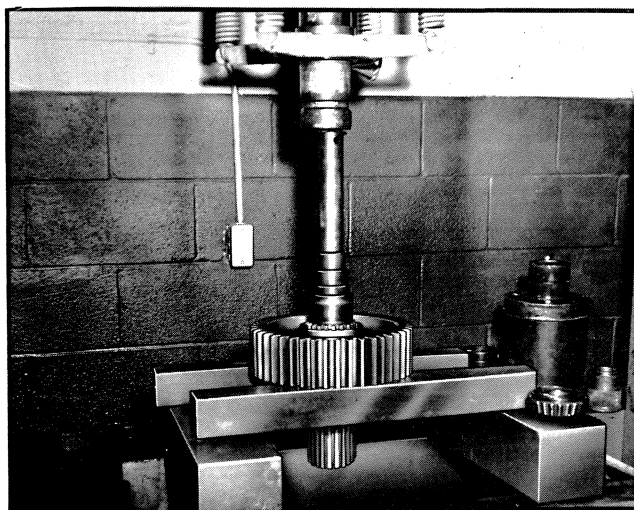

Fig. 7—Removing Single Gear From Output Shaft
18. Remove snap ring from output shaft and press shaft through single gear. See Fig. 7.